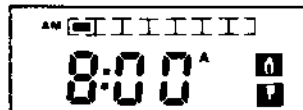

Figure 9. Time
(1) Press and release
(2) Press  and advance the day indicator to the left hand position (Sunday). You will see a display as in figure 9.
(3) Press  to advance hours and  to advance minutes (10 minute increments) to the desired start time. You have now entered the Sunday A time.